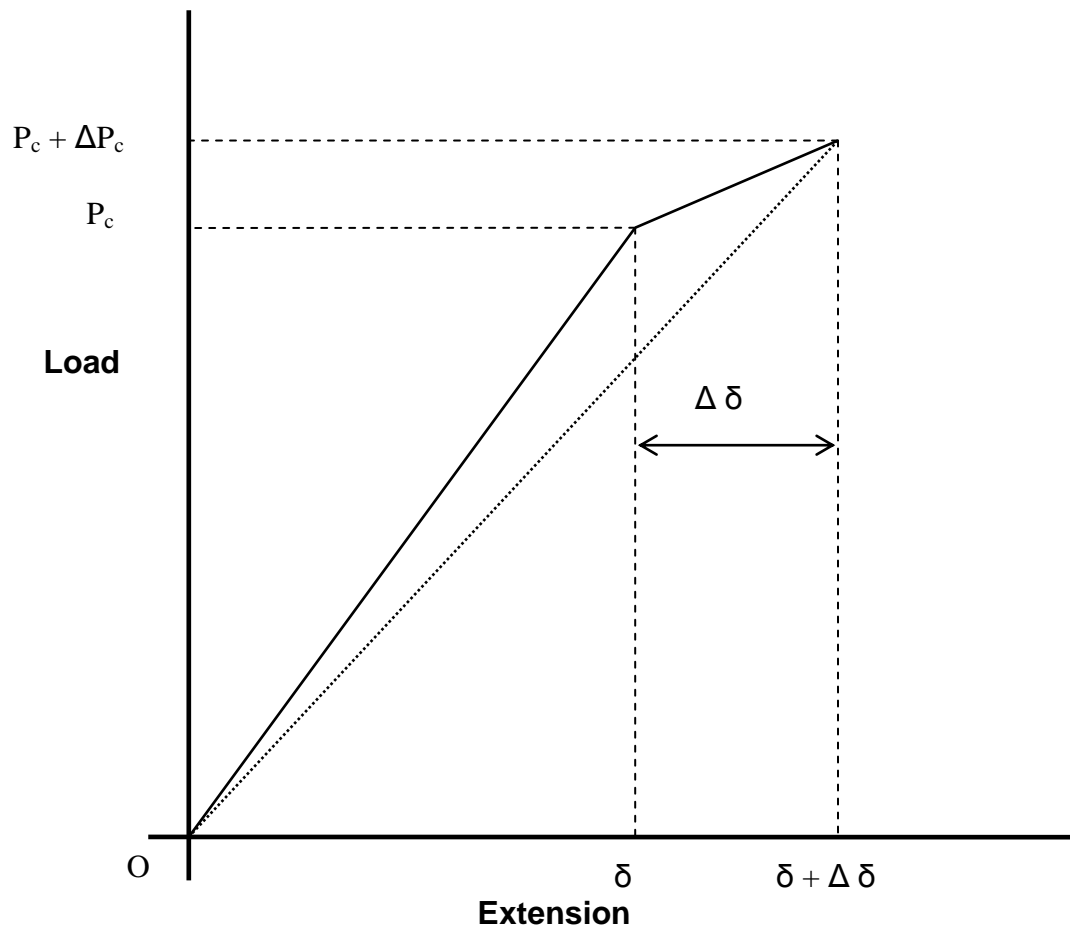

Figure 1
1. Based on Irwin-kies Relationship and Figure 1, indicate that strain energy release rate (G) is